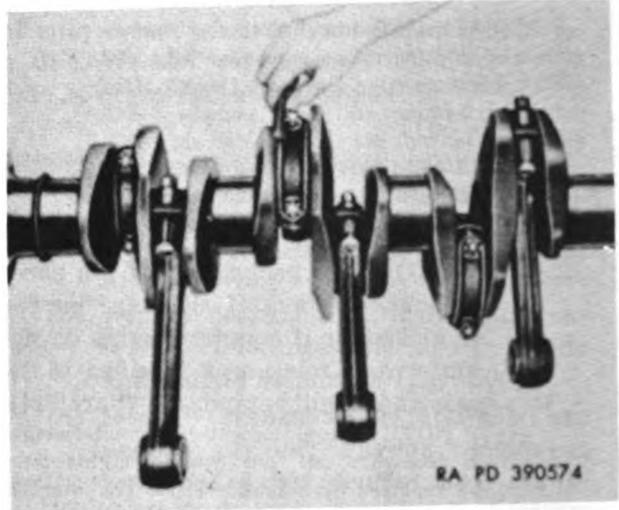

Figure 70. Checking connecting rod side clearance.
- (1) If piston pin bushing-type bearing (F-1) was removed, refer to paragraph 79g for installation of bearing.
- (2) Position connecting rod bearings (E) in their respective rods and caps. Install two  $\frac{1}{16}$  x  $3\frac{1}{2}$  $\frac{1}{2}$  connecting rod bolts (F-2) in each connecting rod (F-3-a), making certain each bolt head is properly seated in recess provided.
- (3) Position rods on crankshaft in proper location according to their identifying number. No. 1 connecting rod is connected to the journal at the vibration damper hub end with other rods following in succession. All location numbers are on the bottom, or oil pan side, of crankshaft when the rods are positioned in the cylinders.
- (4) Position connecting rod cap (F-3-b), with installed bearing, around journal to mate with its corresponding rod. Secure rod and cap to crankshaft with  $\frac{1}{16}$ -inch slotted hex nuts (F-4) installed on connecting rod bolts.
- (5) Using a torque wrench, tighten nuts to 750 pound-inches of torque plus sufficient additional torque to aline slots in nuts with holes in bolts. Do not exceed 850 pound-inches of torque.
- (6) Using a feeler gage as shown in figure 70, check the side clearance of each